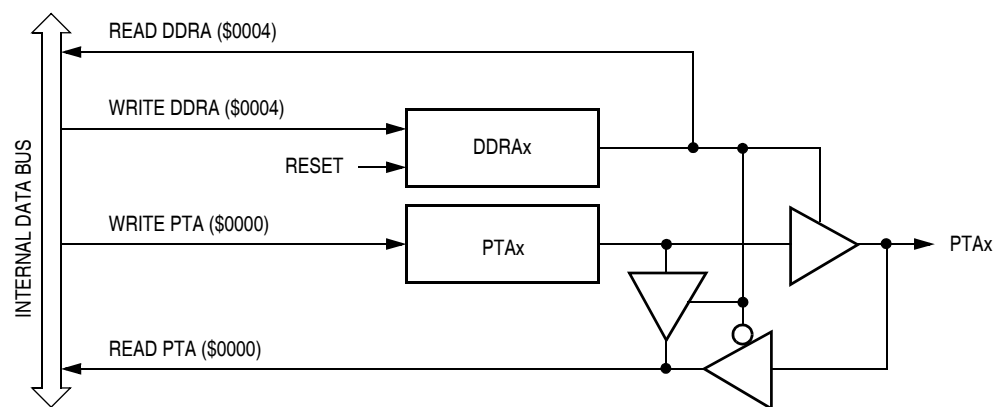

Figure 17-4. Port A I/O Circuit
**NOTE:** Avoid glitches on port A pins by writing to the port A data register before changing data direction register A bits from 0 to 1. Figure 17-4 shows the port A I/O logic.